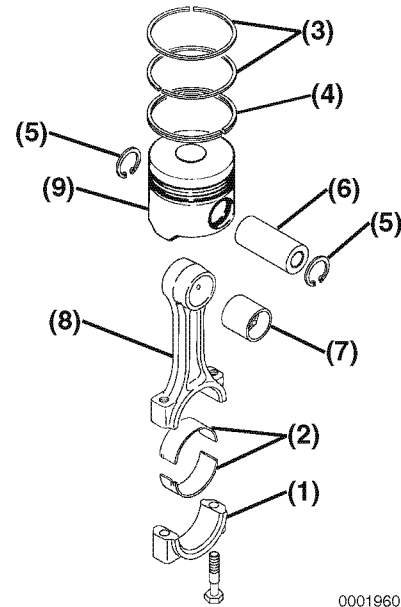

Figure 6-130
2. If removed, install a new wrist pin bushing (**Figure 6-130, (7)**) using a press and the appropriate service tool. Be sure to align the oil holes.
3. Reinstall one circlip (**Figure 6-130, (5)**) into the piston. Ensure the circlip is securely seated in the groove.